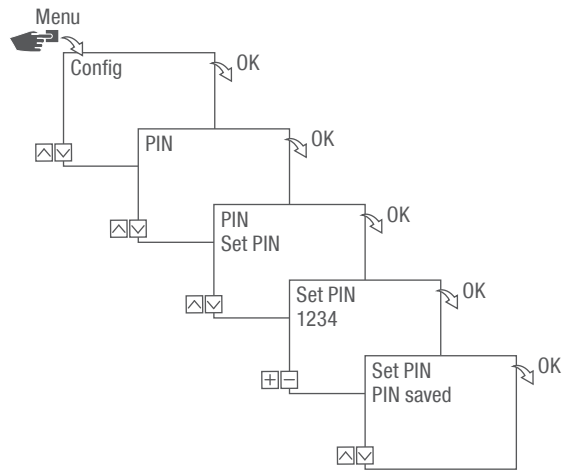

Fig. 15: Specifying the PIN
5. Press the Bluetooth button (Fig. 15/❶) on the DIN-rail timer.